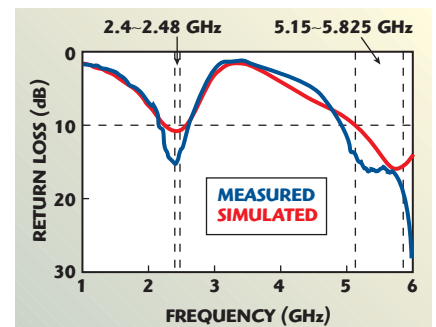

Fig. 5 Measured and simulated return losses of the proposed dual-band antenna.
Measurements show that in practice there are exceptions to this rule. **Figures 5, 6 and 7** show linearity measurements for various commercially available mixers. It is interesting to note, for instance, that the level 13 mixer starts compressing at lower input power than the level 10 mixer. Measurements of the second and third harmonics give a more detailed insight into the linearity issues of various mixers. For example, measurements show that the second harmonic of the level 10 mixer can be compared at certain operating points to the linearity of a level 17 mixer. On the other hand, the third harmonic of the level 10 mixer is much higher than the third harmonic generated by a level 7 mixer at specific input power values. It is worth noting that the curves presented depend on LO power. It is therefore necessary for the designer to carry out extensive measurements before choosing a mixer and setting the operating point.
**Figure 5** shows the measured and simulated return losses of the proposed dual-band antenna with the following dimensions:  $W_1 = 8$  mm,  $W_2 = 18$  mm,  $W_3 = 6$  mm and  $W_4 = 13$  mm. The simulated results were obtained by using the High Frequency Structure Simulator (HFSS). Reasonable agreement between the measured and simulated results is observed. The obtained impedance bandwidths are 18.9 percent (2.15 to 2.6 GHz) at the lower band and over 19.6 percent (4.93 to 6 GHz) at the upper band, covering WLAN (2.4 to 2.4835 GHz, 5.15 to 5.35 GHz and 5.725 to 5.850 GHz) operating bands. The proposed antenna possesses the advantage of low profile, small size, simple structure and easy manufacture. It is suitable for use in portable devices of wireless applications.